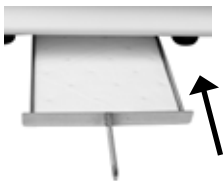

FIG. 2
5. Place 1 oil tray liner in oil tray and insert completely into lower front of unit (Fig. 2).